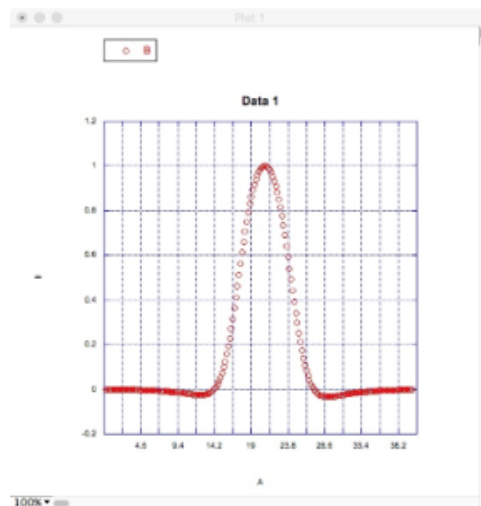

Figure 69- Example graph of normalized moments vs offset.
- a. The graphs should have a bell curve shape with slight negative lobes (**Figure 69**).